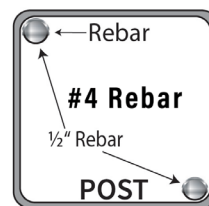

Fig.3a
1. Each end, corner or gate post takes 2 pieces of $\frac{1}{2}$ " diameter rebar cut 4" shorter than the post length located at opposing corners of post (Fig. 3a).